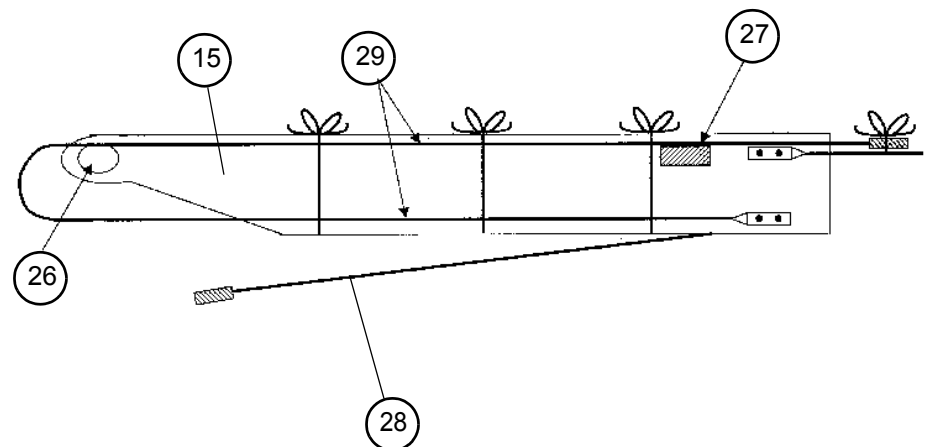

Figure 13
- Attach the slings to the element with adhesive tape (such as masking tape) (Figure 13)
- Put the pin into place (26).